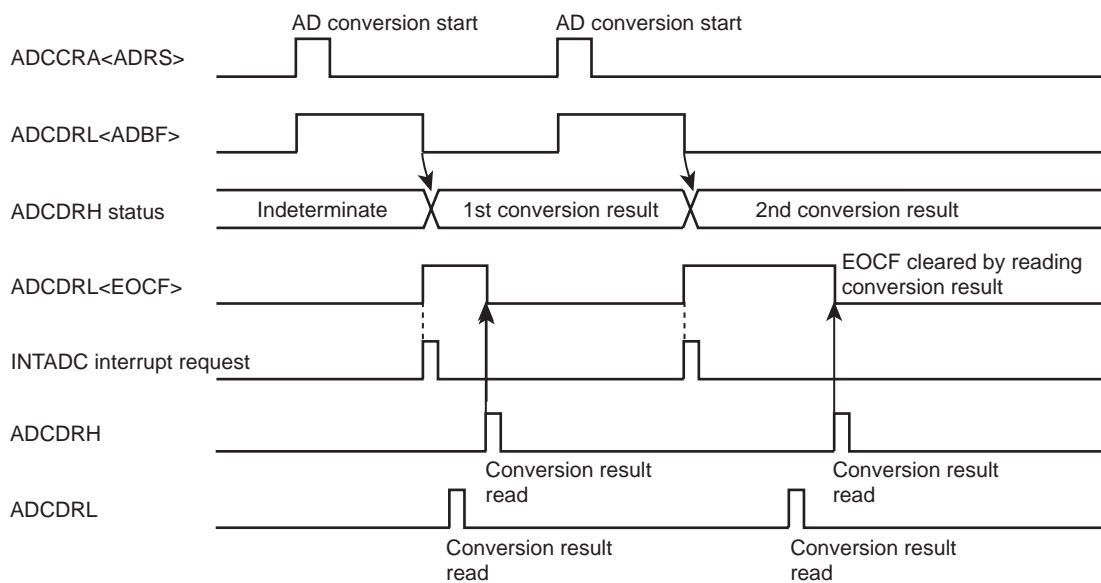

Figure 15-2 Software Start Mode
- Set the AD conversion time using AD conversion time (ACK). For details on how to set the conversion time, refer to Figure 15-1, Figure 15-2 and AD converter control register 2.
3. After setting up (1) and (2) above, set AD conversion start (ADRS) of AD converter control register 1 (ADCCRA) to "1". If software start mode has been selected, AD conversion starts immediately.